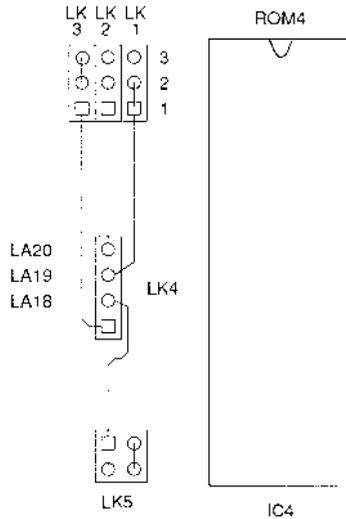

Figure 8 Links for RISC OS 3, 4Mb ROMs
- 7 If you have inserted the new **4Mb** ROMs provided in the RISC OS 3 software upgrade, you need to fit the plastic shunts to the daughter board as shown in Figure 8 below. Remove the shunts from LKI2 on the mother board.